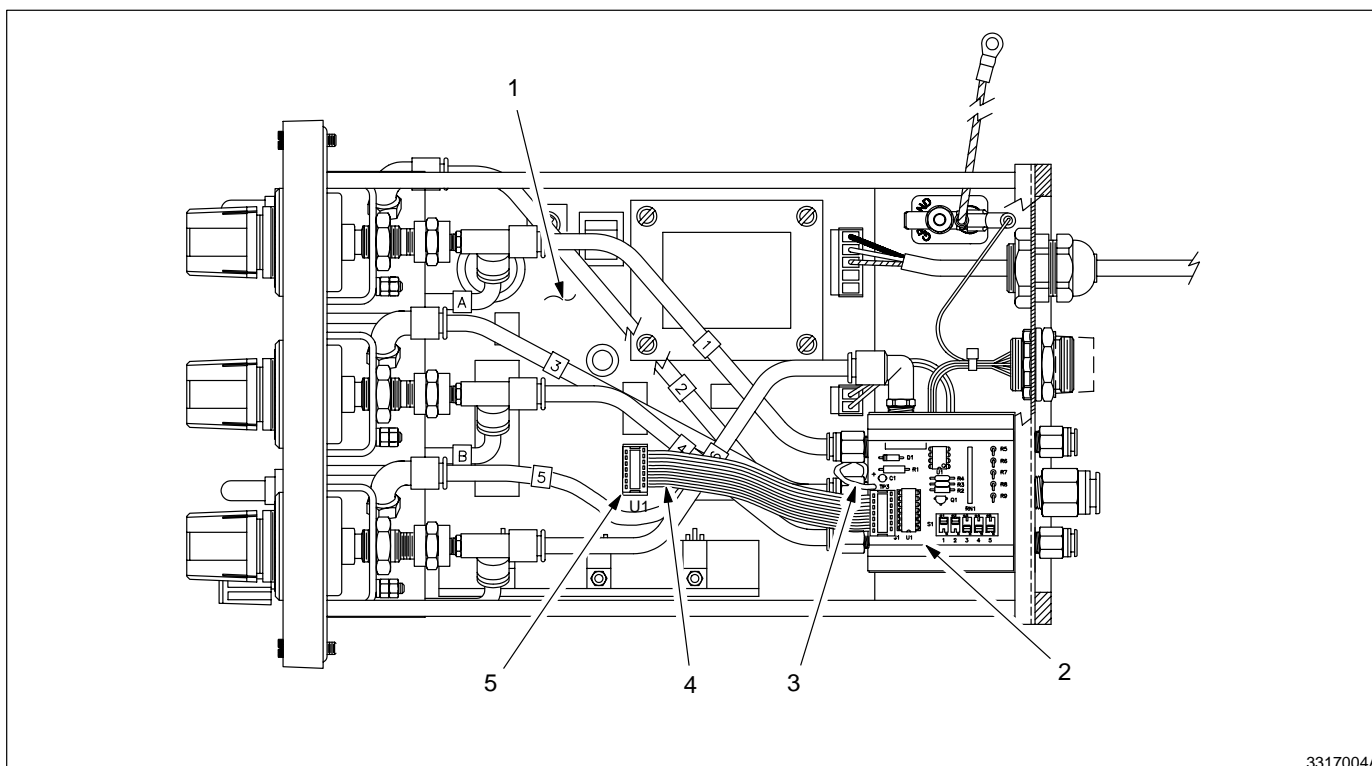

Figure 5 AFC board installed
9. See Figure 5. Orient the cable connector so the brown trace is closest to the "U1" legend on the control module circuit board. Carefully plug the cable connector into the U1 socket.